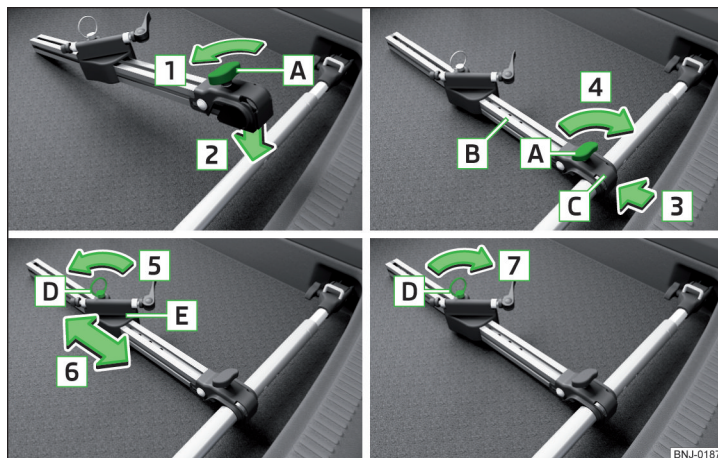

Fig. 97 Fitting the bike rack
➤ Loosen screw **A** on the bicycle rack (hereinafter only referred to as carrier) in direction of arrow **1** » Fig. 97.
- If you want to transport two bicycles, loosen screw [A] » Fig. 97 on page 92 on the carrier and move the carrier along with attached bike to the left.
- Tighten screw [A] » Fig. 97 on page 92 on the support.
- If necessary, the position of the sliding part [E] » Fig. 97 on page 92 can be adjusted.